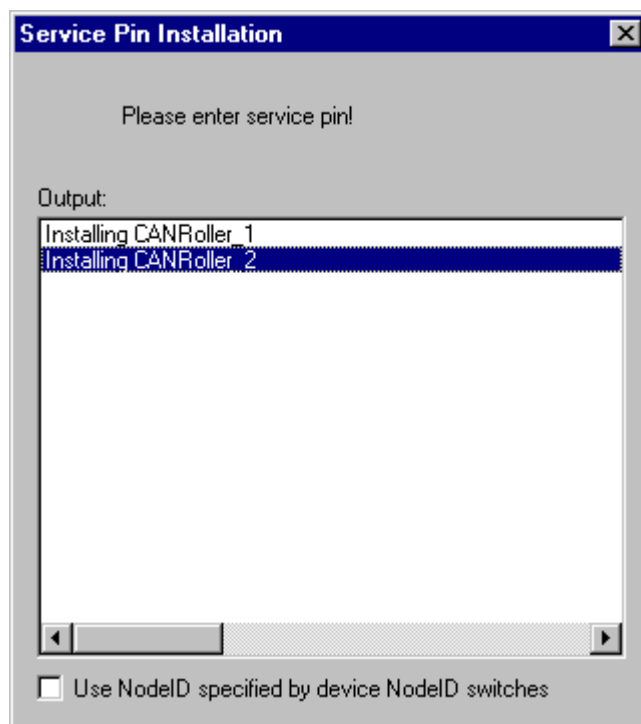

Fig. 5.19
- Wait until the module resets and all LED s flash shortly. When the module is ready the dialog box will invite you to install the next (downstream) module, refer to Fig. 5.19.